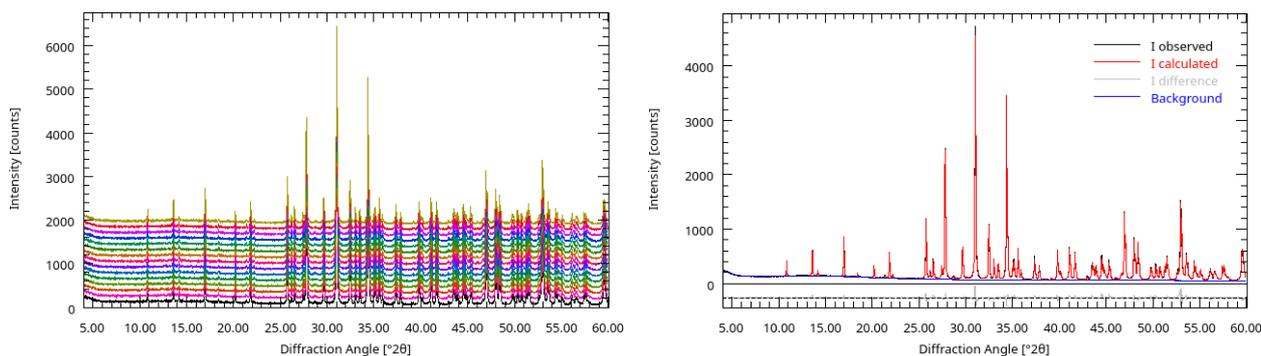

Figure 8: Randomly generated scan colors (left) used for multi-scan files. Standardized colors for refined projects (right).
**Standard colors** Multiple scans can be loaded either from a raw data file containing more than one scan, or from a refined project containing one raw data scan (Iobs), as well as several calculated scans (Icalc, Idiff, background). Multi-scan files use the colors specified in the color list above. However, separate colors can be used for refined projects. These standard colors override the colors in the list above as soon as Profex detects a refined project. This is helpful to use pretty colors for multi-scan files, but the *defacto* standardized colors for Iobs (black), Icalc (red), Idifference (grey), and background (blue). An example for the two different modes is shown in Fig. 8.